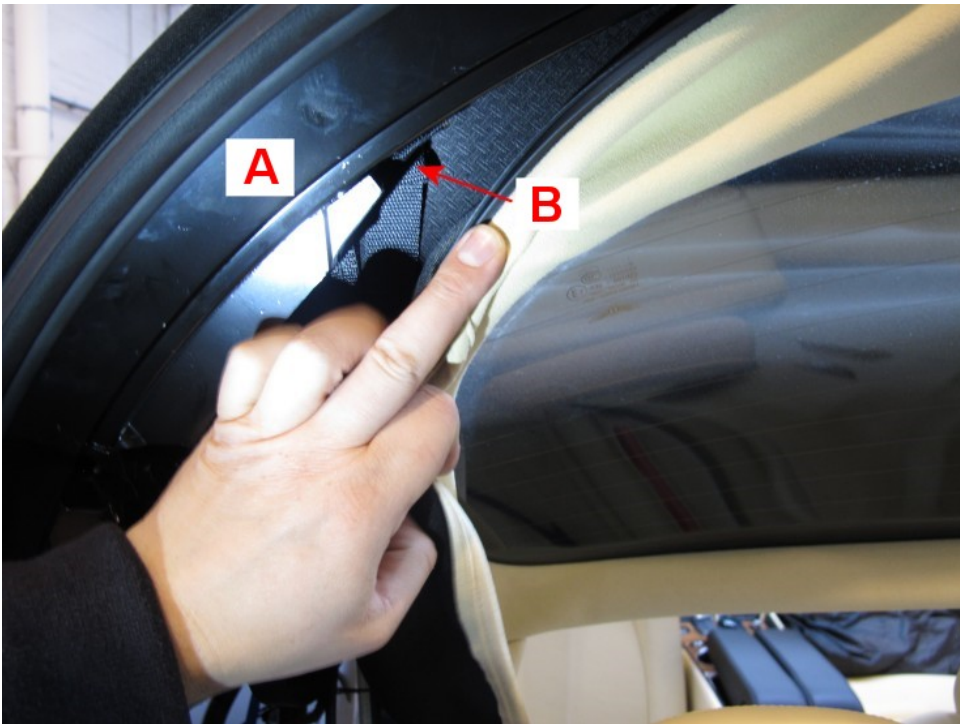

Figure 11
- With the headliner unclipped from the rear bow (A) locate position (B) on the rear bow remove the rivet securing existing strap at point (B) (Figure 11)